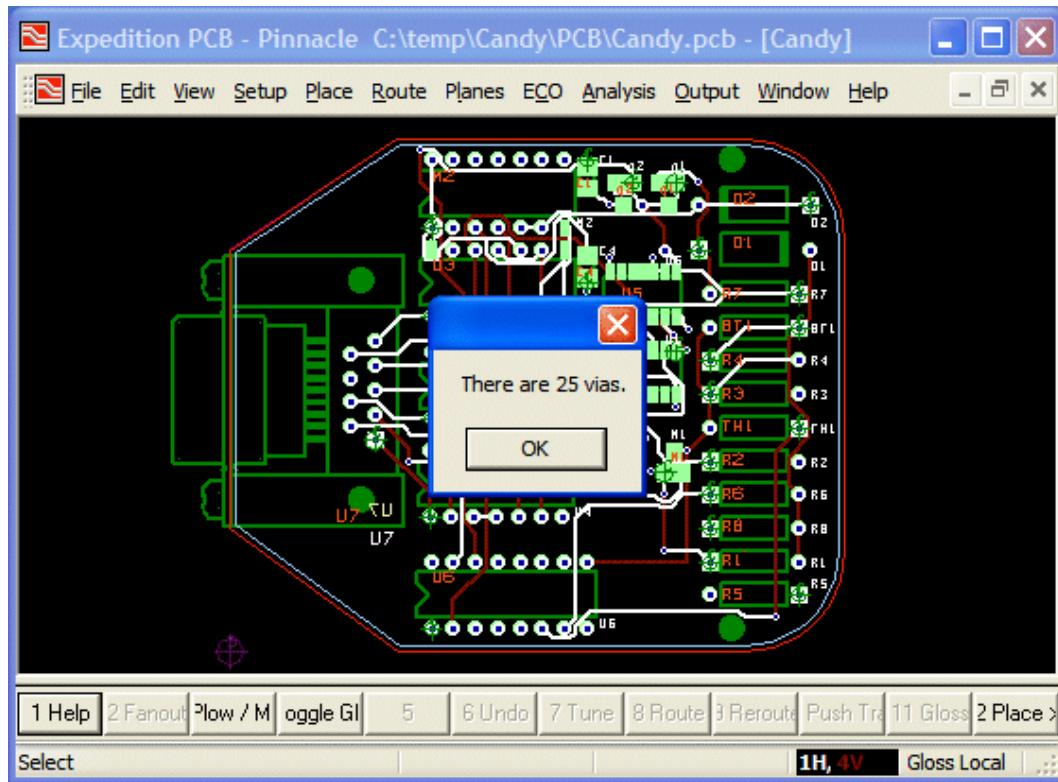

Figure 10.2. ViaCount.vbs is automatically run when the document is opened.
- 4) Open a layout design document of your choice and observe that the *ViaCount.vbs* script is automatically run as soon as the document is opened as illustrated in Figure 10-2.